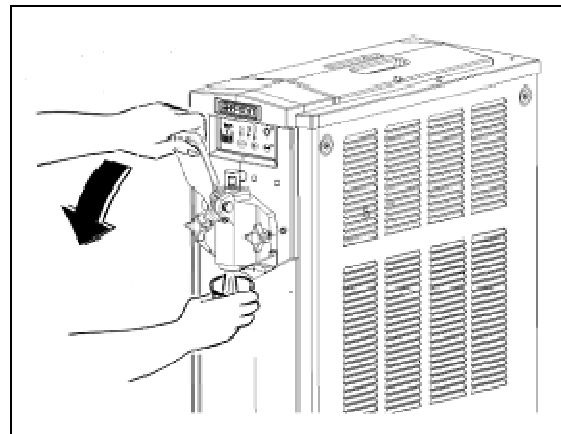

Fig. 33
- To dispense, place a glass under the tap and pull the lever as shown in fig. 33. The beater will begin to rotate again, starting the dispensing phase.